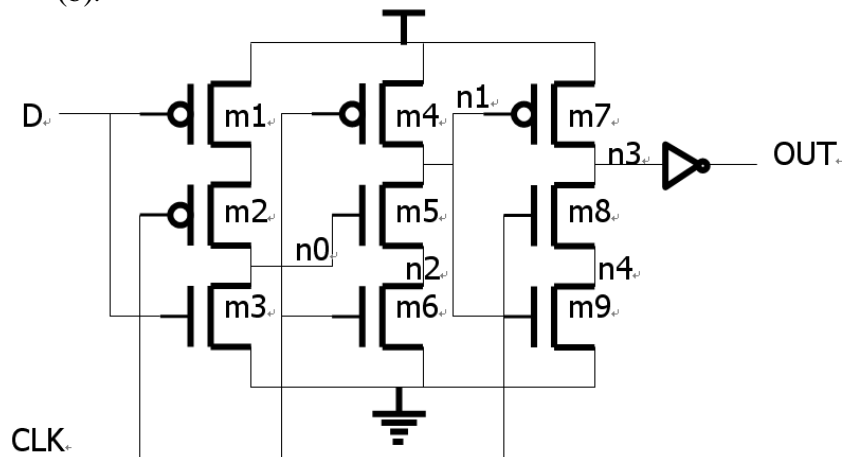

Fig.1
3. (50%) Design a dynamic D register as shown in Fig.1 with propose size of NMOS and PMOS to have better tsetup, tpcq, tpdq and thold time. Both D and CLK has rise time and fall time of 0.1ns (0V-0.75V).